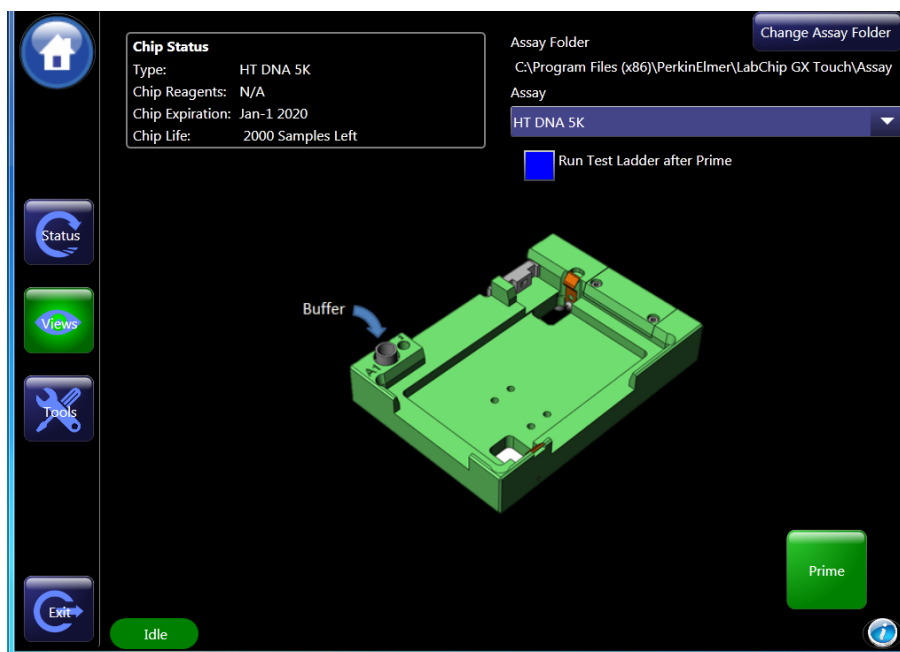

Figure 8. Chip priming screen.
- 1 Touch the *Run* button (see Figure 8).